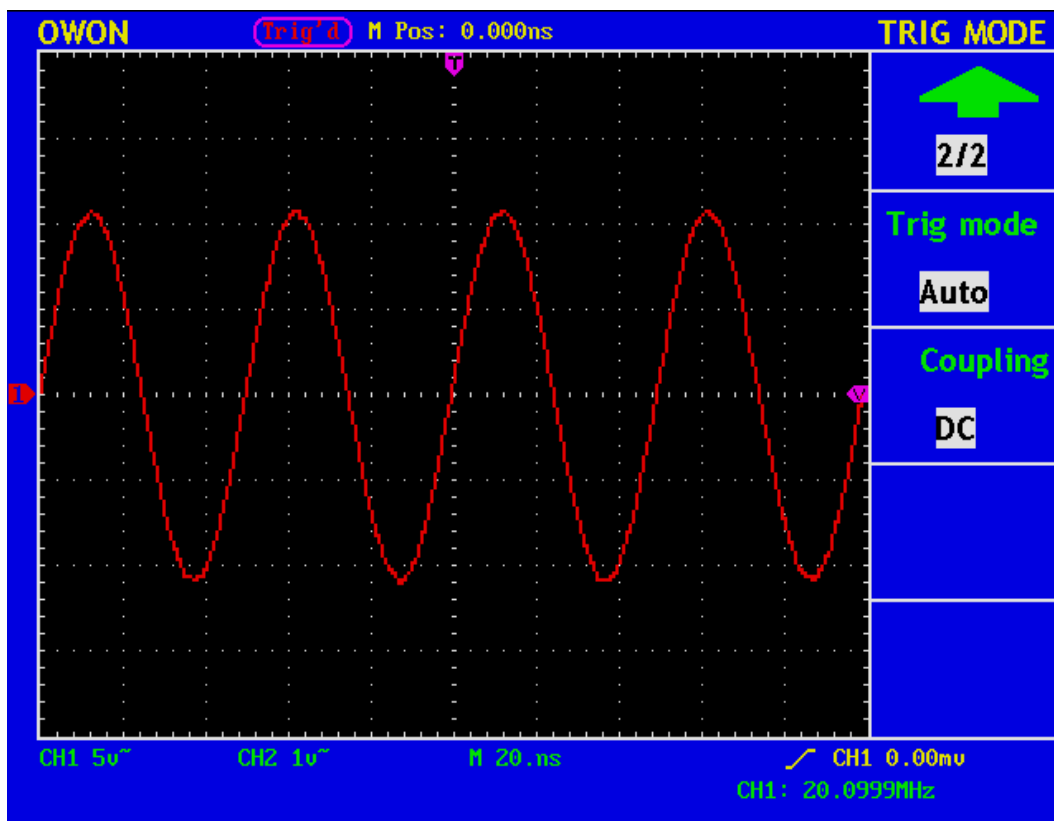

Fig. 35 Edge trigger (Rising Wave, the second menu)
- 8、 Press “F3” to choose coupling as “DC”(refer to Fig.35)